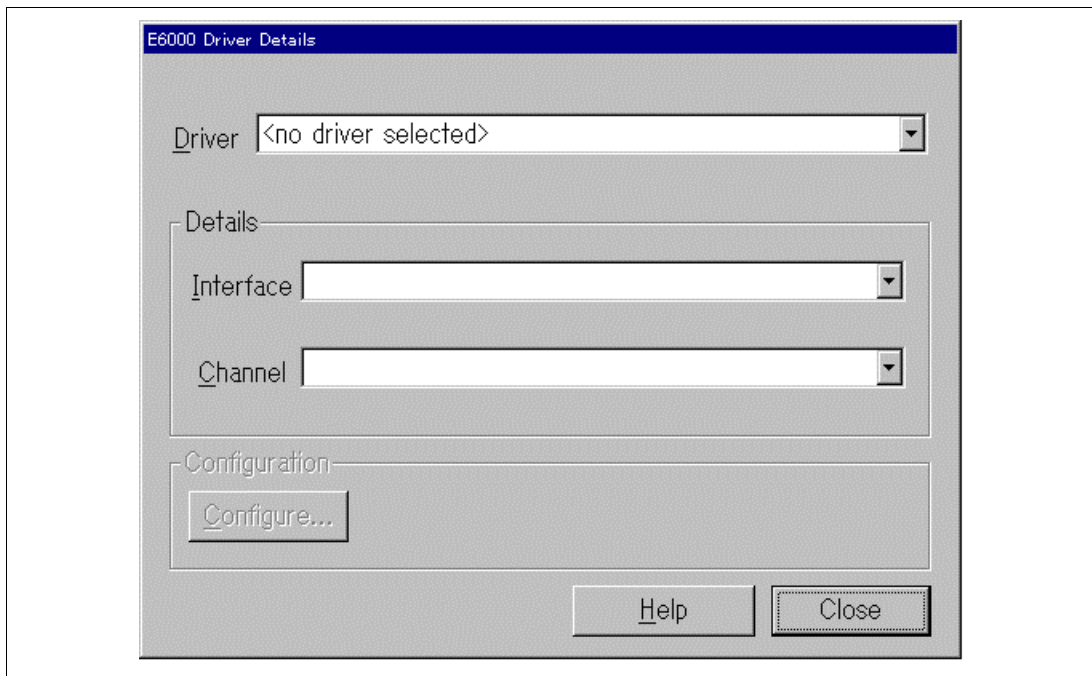

Figure 5 Dialog Box at HDI Start-up
6. Turn on the emulator and double-click the HDI icon to initiate the HDI. When the HDI has been initiated successfully, the dialog box shown in figure 5 will be displayed.